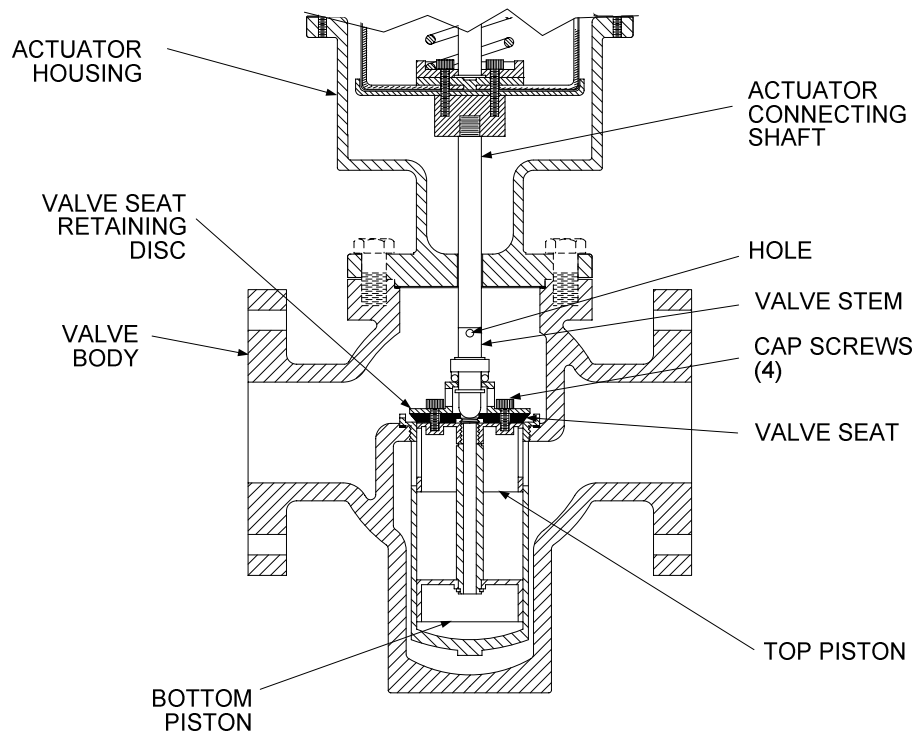

Figure 2-7. Self-Contained Control Valve Actuator Removal – 2 ½” to 4”
4. Lift the Actuator Housing straight up and off the Valve Body. Doing so will also remove the entire inner valve assembly (Figure 2-7), including the Valve Stem, Seat, Valve Plug Shaft and Top/Bottom Pistons. Depending on the age and condition of the valve, considerable force may be required to pull the Pistons through the Valve Body. If it cannot be removed, the Valve Stem may be used as an impact hammer to remove scale build-up on the internal valve surfaces and allow Piston removal.
- (a) For 2 ½ to 4 inch Valves, separate the Valve Seat Retaining Disc from the Valve Seat by removing the four (4) cap screws (Figure 2-7).
6. Insert a 1/8 inch steel rod through the hole near the top of the Valve Stem (Figure 2-7 or 2-8).
7. Grasp the Actuator Connecting Shaft (Figure 2-7 or 2-8) with a pair of pliers. Carefully turn the Valve Stem counterclockwise and separate it from the Actuator Connecting Shaft.